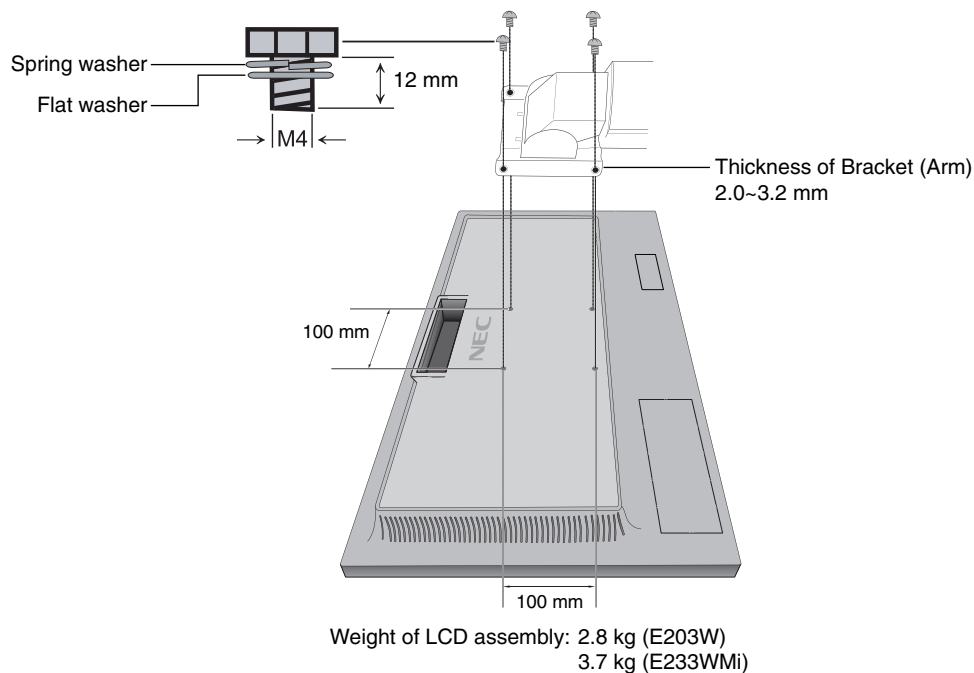

Figure F.1
2. Use the 4 screws removed from the stand or the specified screws (**Figure F.1**) to attach the arm to the monitor (**Figure F.1**).
Caution: Use ONLY the screws (4 pcs) that were removed from the stand or the specified screws (**Figure F.1**) to avoid damage to the monitor or stand.